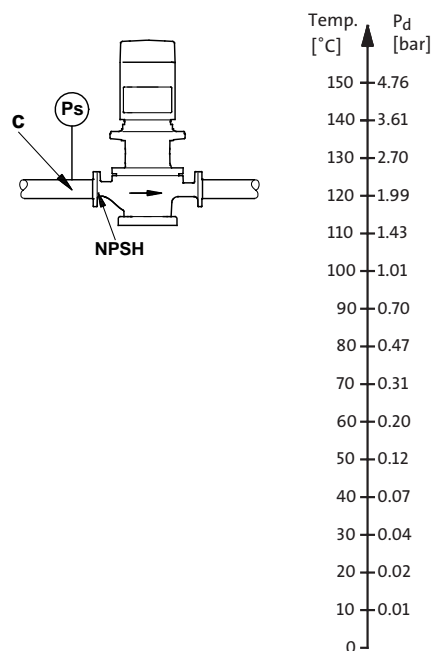

Fig. 107 Minimum inlet pressure
- p_d = Vapour pressure in bar. See fig. 107.